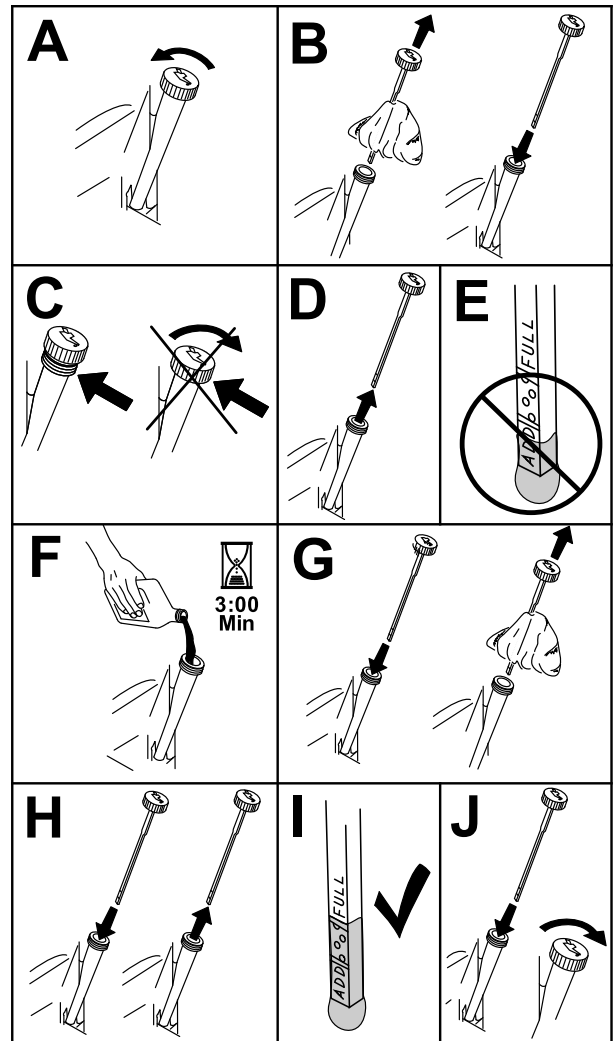

Figure 40
3. To keep dirt, grass clippings, etc., out of the engine, clean the area around the oil-fill cap and dipstick before removing it (Figure 40).
3. Fill the crankcase with the proper type of new oil (Figure 40).